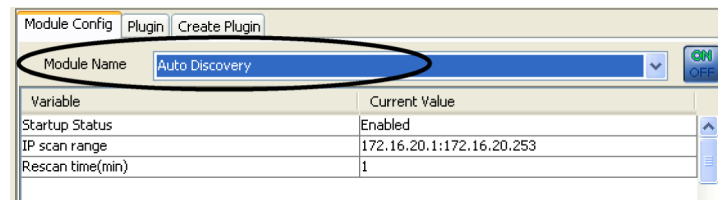

Fig. 4.44 Auto Discovery Option
1. Open the Module Configuration page. Use the Module Name pull-down menu to select Auto Discovery option. (See *Figure 4.44*)